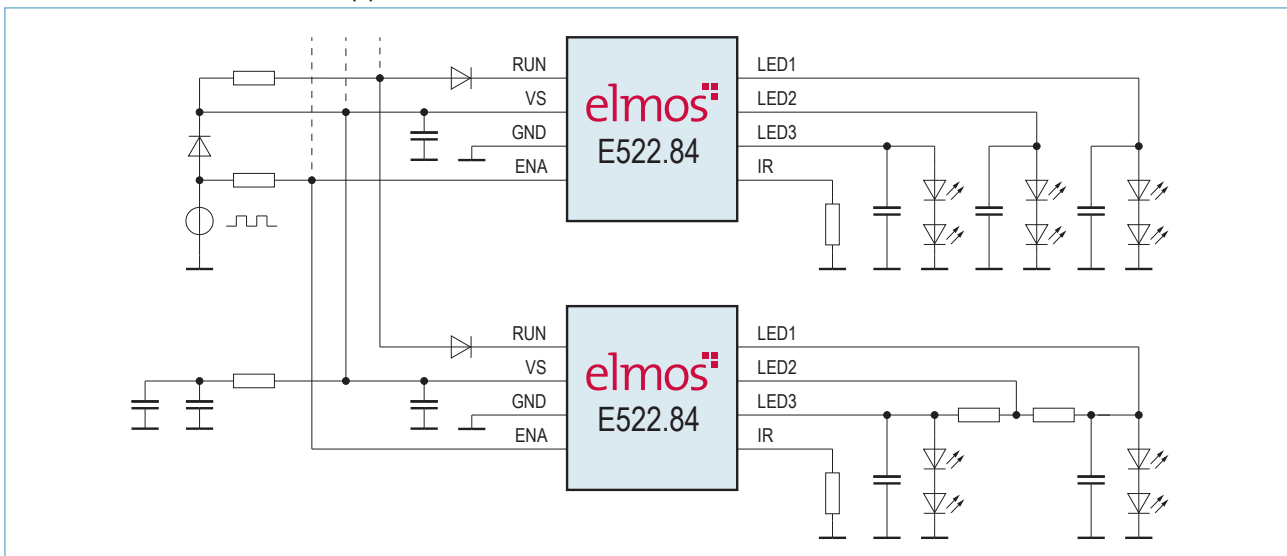

Figure 10. Automotive Cluster Application
- The lower IC in „Figure 10. Automotive Cluster Application“ uses balancing resistors to equally share its current between Channel 1 and 3, thus less than three channels are possible with one IC. Alternatively, see Elmos datasheet E522.80 for a compatible IC with more sophisticated options to disable channels